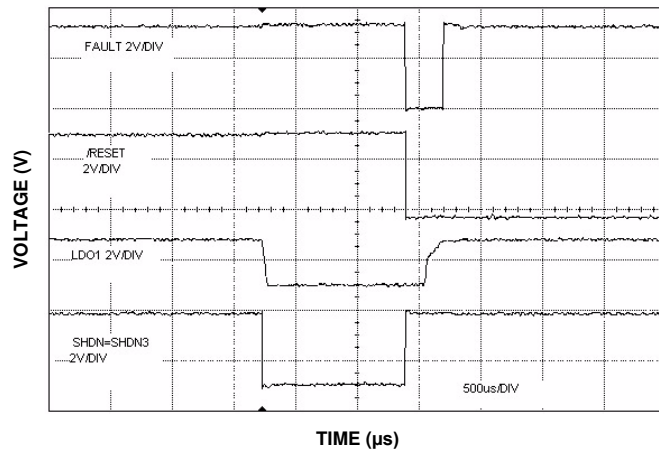

FIGURE 19. SHUTDOWN
**FAULT** - FAULT output for LDO's. This output is combined for LDO1, LDO2 and LDO3. When any LDO is out of regulation, FAULT goes LOW; when all SHDN inputs are low, FAULT will be high (refer to Figure 19). Connect to GND, if unused.
Driving the SHDN input LOW puts both LDO1 and LDO2 in shutdown mode. Driving the SHDN3 input LOW puts LDO3 in shutdown mode. Pulling the SHDN and SHDN3 pins LOW simultaneously, puts the complete chip into shutdown mode, and supply current drops to 5 $\mu$ A typical. Both SHDN and SHDN3 inputs have internal pull-up resistors, so that in normal operation the outputs are always enabled; external pull-up resistors are not required. During shutdown mode using the SHDN pin, the FAULT output will remain HIGH (refer to Figure 19).
The FAULT pin monitors all three LDO outputs regulation as well as fault conditions such as current limit and thermal shutdown. The FAULT output goes low if outputs are out of regulation or the device is in any of the fault modes. In addition, the fault-detection circuitry detects when the input-to-output voltage differential for LDO2/3 (<90mV) is insufficient to ensure good load and line regulation at the output. During shutdown mode using the SHDN pin, the FAULT output will remain HIGH (refer to Figure 19).